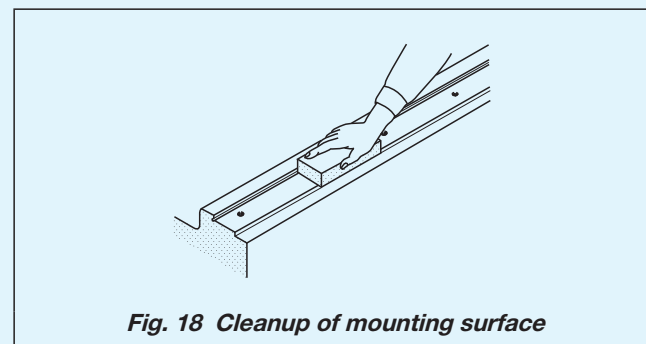

Fig. 18 Cleanup of mounting surface
① Cleanup of mounting surface and reference mounting surface
- Remove burrs and blemishes by using oil-stone, etc. from reference mounting surface and mounting surface of the machine or the device to which Linear Way is mounted and wipe off with clean cloth. (see Fig. 18)